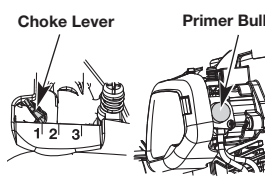

Fig. 5
3. Fully press and release the primer bulb 10 times, slowly. Some amount of fuel should be visible in the primer bulb (Fig. 5). If fuel can not be seen in the bulb, press and release the bulb until fuel is visible.
4. Place the choke lever in **Position 1** (Fig. 5).
6. Place the choke lever in **Position 2** (Fig. 5)
9. Continue squeezing the throttle control, move the choke lever to **Position 3** (Fig. 5) and continue warming the engine for an additional 60 seconds. The unit may be used during this time.
IF... the engine hesitates, return the choke lever to **Position 2** (Fig. 5) and continue the warm-up.